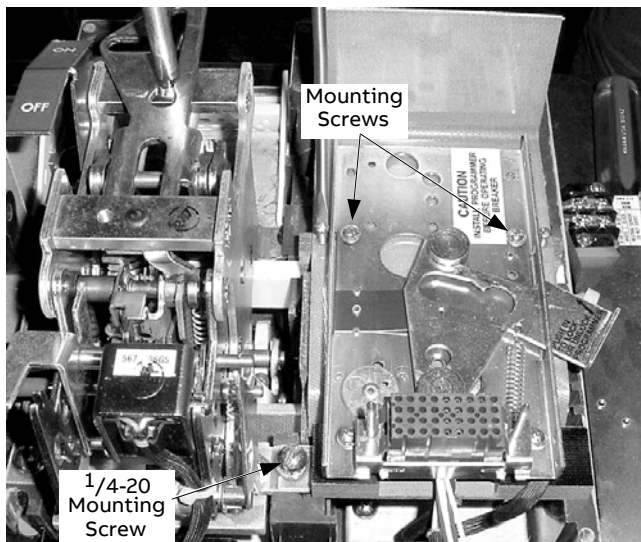

Figure 2. Trip unit mounting plate on an 800–2000 A breaker.
- 800–2000 A: Remove the two mounting screws on the trip unit plate and loosen the 1/4-20 screw on the side of the assembly, as shown in Figure 2. Remove the trip unit mounting plate assembly.
- 800–2000 A breaker: Slide the tab of the mounting plate under the 1/4-20 screw shown in Figure 2. Insert the two mounting screws removed in step 8 into the holes in the plate and secure to the mounting bar shown in Figure 7. Tighten all the screws.